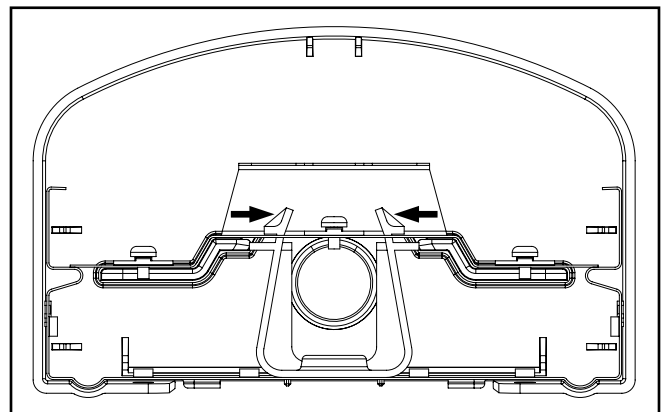
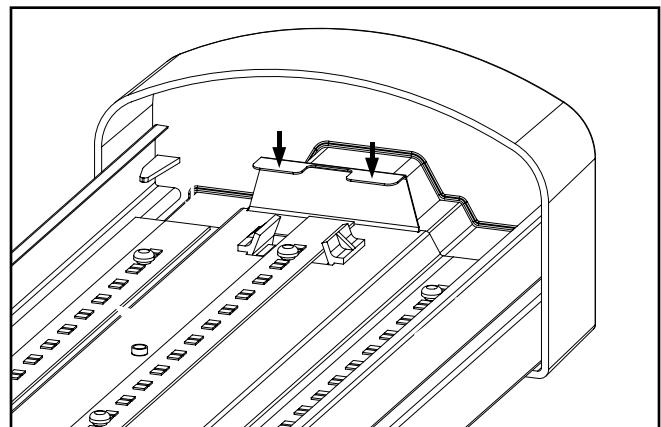

Figure 5.
Figure 6.
4. To remove gear tray press locking snaps inward (Figure 5). After gear tray is released, use gear tray tabs to maneuver tray to one end of the fixture so tray can be removed from channel (Figure 6). The gear tray is tethered to the channel.